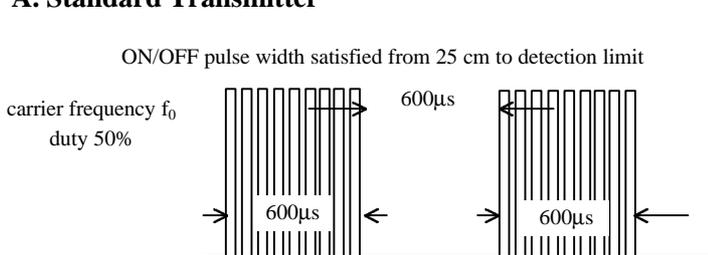

Fig 1. Burst Wave
- (3)Standard transmitter ...Burst wave indicated in Fig 1. of standard transmitter